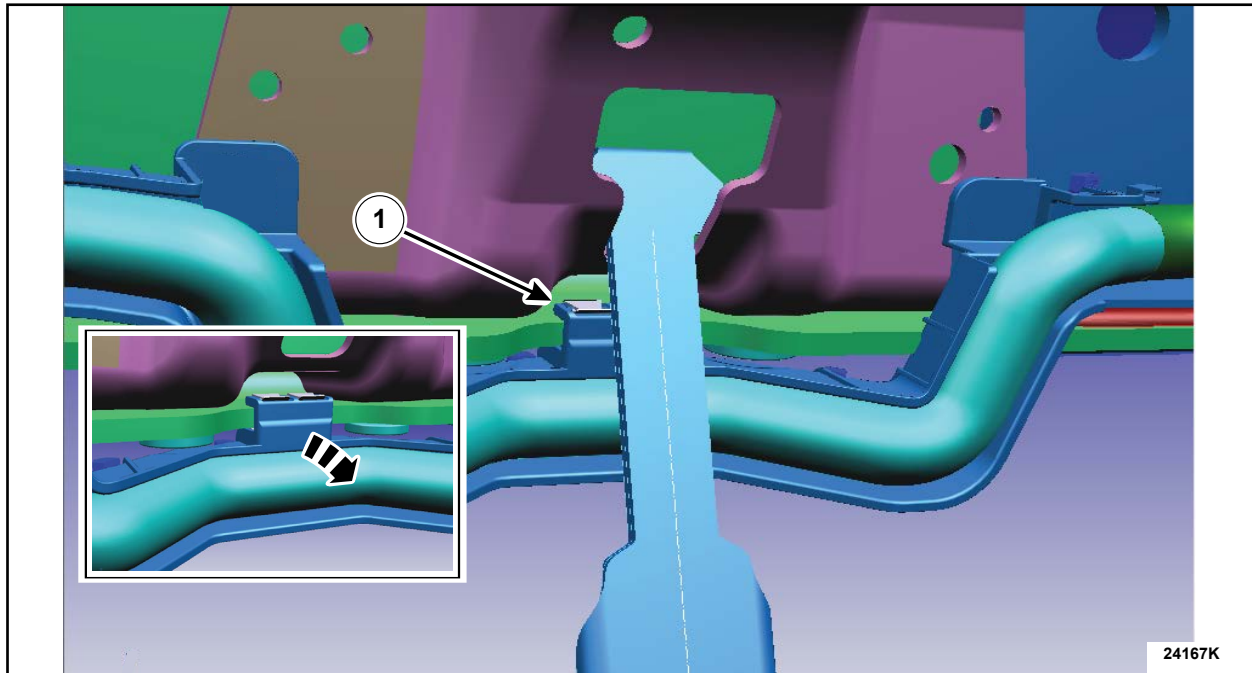

FIGURE 25
2. Detach the edge biter clip from the frames lower flange as shown in Figure 25.